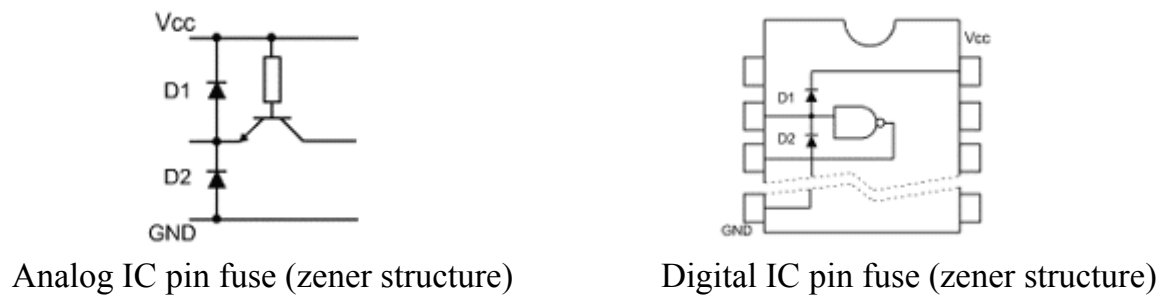

Figure 2. Integrated protection diode structures in the pins.
Digital and Analog integrated (IC) fuses the pins has a purpose zener diodes. Please see figure 2.